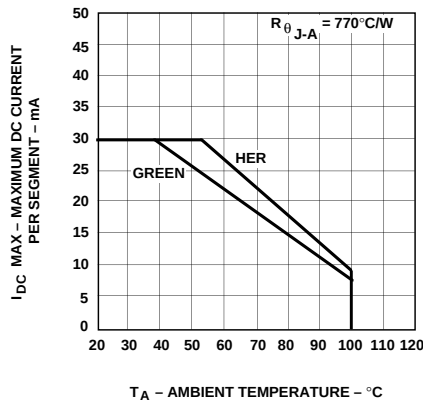

Figure 12. Maximum Allowable DC Current vs. Ambient Temperature.
6. Derate above 39°C at 0.37 mA/°C (see Figure 12).